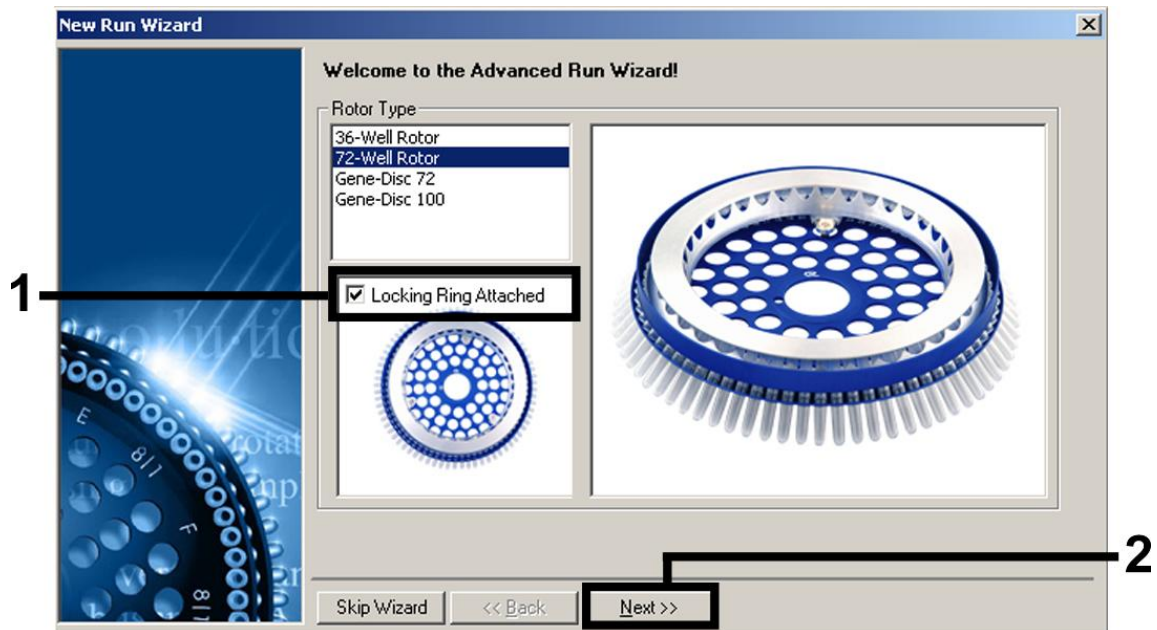

Figure 5. The “New Run Wizard” dialog box.
Setting the general assay parameters	Figures 5, 6, 7
6. First, open the “New Run Wizard” dialog box (Figure 5). Check the “Locking Ring Attached” box and click “Next”.